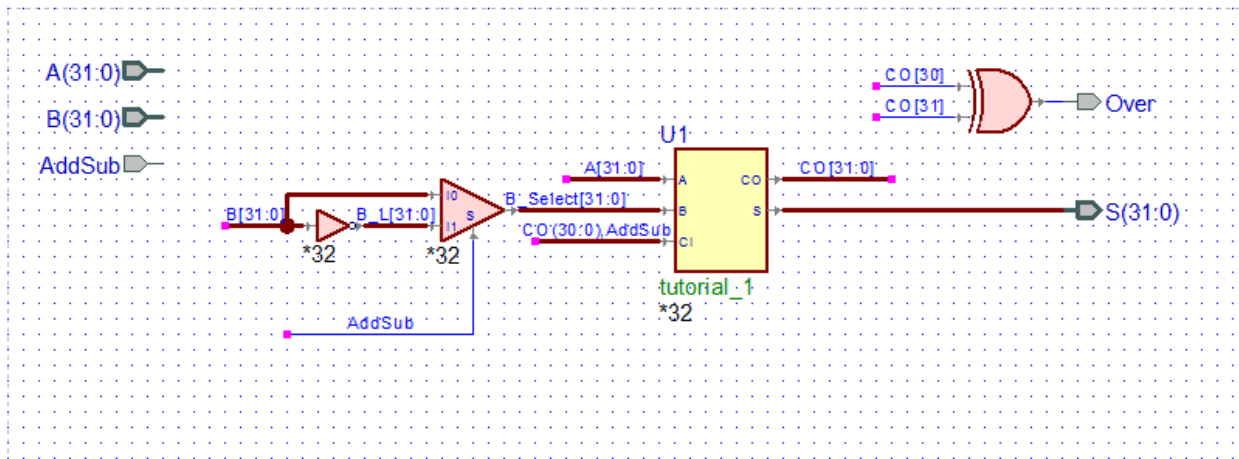

Figure 12
In this portion of the tutorial, you will design a 32-bit adder/subtractor using a full adder. Designing this like we just designed the 4-bit unit would be tedious, painful and error-prone, even taking advantage of cut-and-paste techniques. Active-HDL, however, provides the ability to create arrays of components, which will help to make easy to read designs even when these designs consist of many components. Figure 12 shows the final schematic for the thirty-two-bit adder/subtractor component.
7. Use buses to connect the arrays of components to each other. When connecting the inverter to the multiplexer and the multiplexer to the full adder, you will need to name the buses and set their width to 32. Remember, buses by default are 8-bits and need to be named in order to adjust their width. (Refer back to Figure 12)